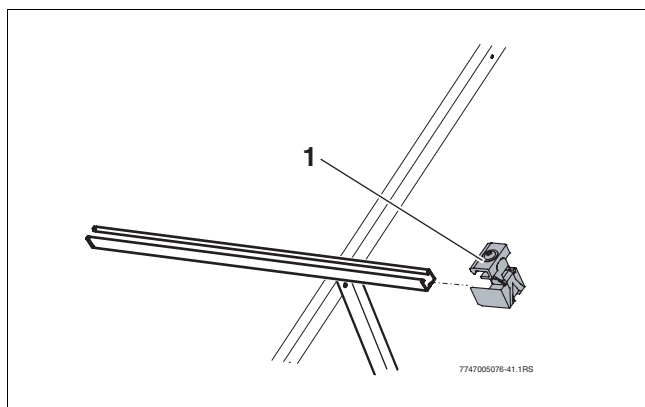

Fig. 41 Inserting the single sided collector tensioner
- Push the single sided collector tensioner (Fig. 41, [1]) on the right into the flat roof/rooftop profile rails until it clicks into place in the first slot on the profile rail.